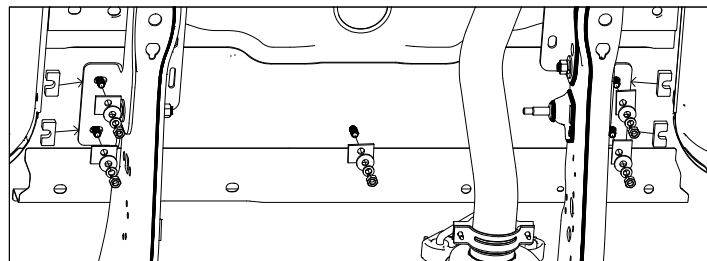

Figure E4: View looking up at underside of bed.
4. **Install the forward mounting rail, cont.** Under the bed install offset square washers, 1/2" flat washers, 1/2" lock washers, and 1/2" finish nuts on each of the carriage bolts, see Figure E4. Use U-shaped spacers under the four outside mounting locations. Hand tighten each nut.